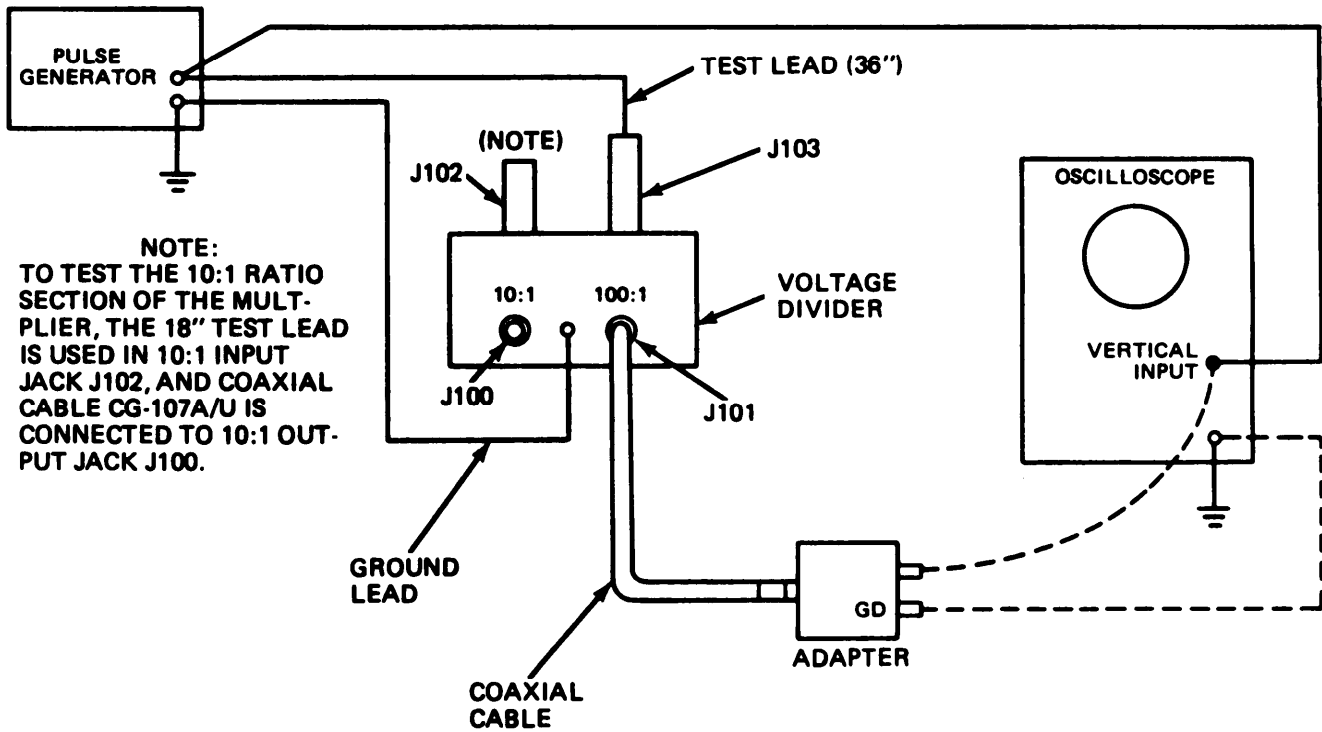

Figure 5-2. Voltage-Dividing Ratio Test Setup
(1) Connect the output of the pulse generator to the RATIO 100:1 input jack J103 (fig. 5-2), using the test lead (36-inch) and the ground lead that extends from the Multiplier.
(2) Set the pulse generator frequency to approximately 2.5 kHz.
(3) Connect the vertical terminals of the oscilloscope across the outputs of the pulse generator (fig. 5-2).
(4) Connect the output coaxial cable into the RATIO 100:1 coaxial connector J101.
(5) Adjust the output of the square wave generator for 10-volt output; measure the output with the oscilloscope.
(6) Adjust the oscilloscope controls for steady and sharp display of the square wave on the oscilloscope screen.
(7) Remove the power from the pulse generator and from the oscilloscope.
(8) Disconnect the oscilloscope from the pulse generator and connect it to the output coaxial cable of the Multiplier (or to the adapter, if used) as shown with the dotted line in fig. 5-2.
All checks outlined in the troubleshooting chart are to be conducted with the Multiplier connected for the voltage-dividing ratio tests (fig. 5-2).